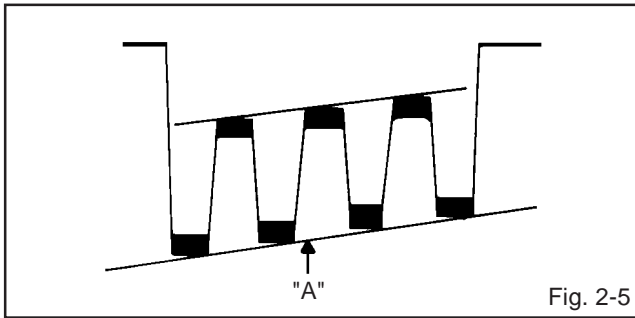

Fig. 2-5
6. Press the VOL. UP/DOWN button on the remote control until the section "A" becomes a straight line. (Refer to **Fig. 2-5**)